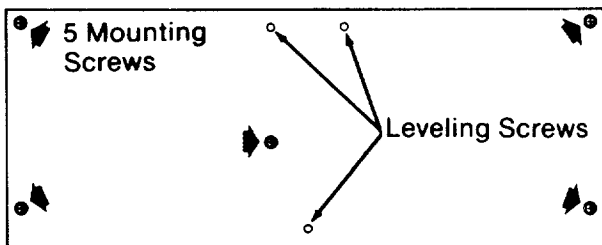

Fig. 77
- Tighten the *mounting screws* which pull down on the *table* making a given point lower. (Figure 77)
- Tighten the *leveling screws* which push up on the *table* making a given point higher. (Figure 77)